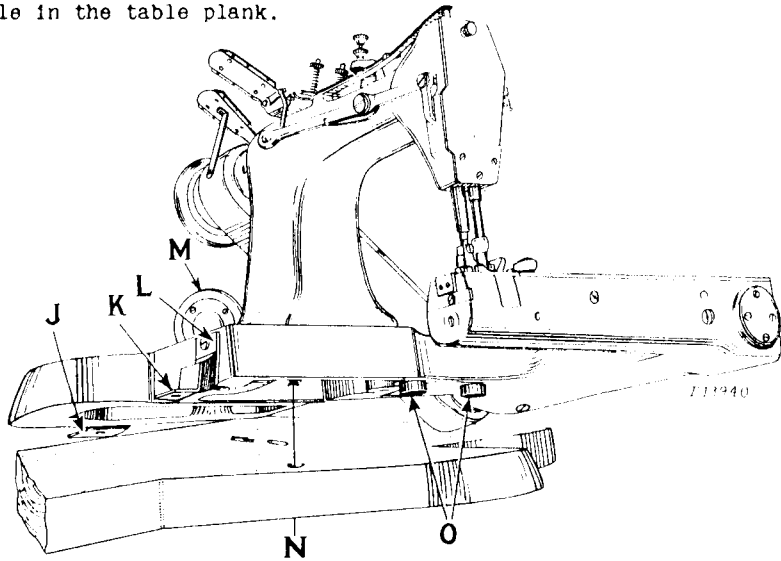
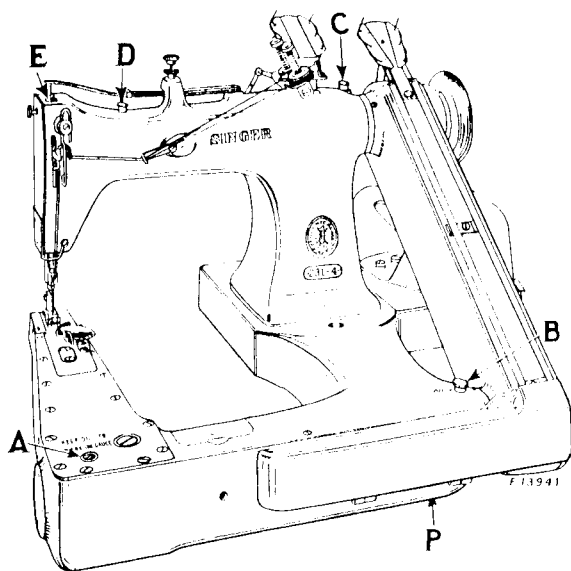
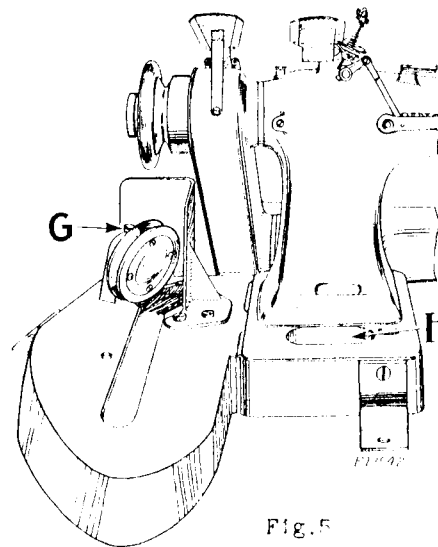
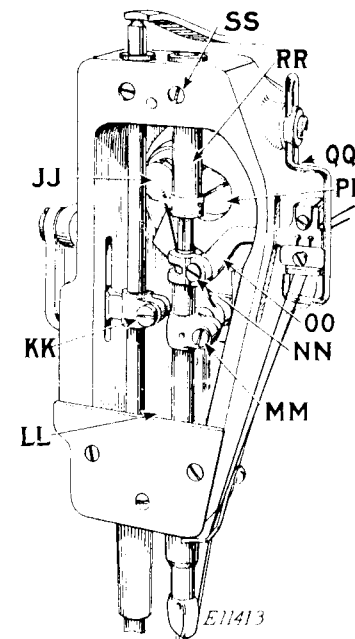

Fig. 2
Fig. 3
Fig. 5
Fig. 17
Unpack and clean the machine. Attach the counterweight to the machine bed as shown in Fig. 5. Insert the two rubber cushions (O, Fig. 2) into the holes in the base of the machine. Place the machine in position with the edge of the machine base in line with the edge of the table as shown below, and see that the hole (N) for the presser bar lifter chain is in line with the hole in the table plank.
The two vibration dampeners (J and K, Fig. 2) are placed at the rear of the machine base and at the right of the counterweight as shown in Fig. 2. Attach the straight straps (L) to the machine base and counterweight, then locate and drill holes in the table and fasten the angle straps (K) of the dampeners to the table with 1/4 X 2 1/4 inch bolts.
When the machine is operated on a Singer Electric Transmitter Power Table or a Low Shaft Power Table, the idler pulley (M, Fig. 2) is attached to the machine counterweight as shown in Fig. 5.
1. After the machine has been set up so that its cylinder arm cover is level, lift out the gauge (A, Fig. 3) and fill the arm reservoir to the level of the mark on the gauge. Run the machine a few minutes, then wipe off the gauge and recheck the oil level. THIS RESERVOIR SHOULD BE FILLED ABOUT TWICE A WEEK OR OFTEN ENOUGH TO KEEP THE OIL LEVEL UP TO THE MARK ON THE GAUGE.
3. Place about 5 drops of oil in each of the three cups (B, C and D, Fig. 3) which lubricate the ball bearings, and in the cup (G, Fig. 5) on the idler pulley underneath the balance wheel. DO THIS ABOUT ONCE A WEEK.
NOTICE: When the machine is first set up, or after it has stood idle for some time, put a few drops of oil in the top of the needle bar guide pin (E, Fig. 3) before starting the machine.
OIL DRAIN. Surplus oil from the bearings drains into the wells at the rear of the base (H, Fig. 5) and in the head of the arm (LL, Fig. 17). These wells may be kept empty by soaking out the oil with waste or similar material.
Oil which accumulates in the front of the arm under the rotary shaft should be drained out occasionally by removing the screw plug at (P, Fig. 3) in the bottom of the arm, to prevent oil from getting on the looper thread take-up.
Note: If an excessive amount of oil should flow into the reservoir (LL, Fig. 17), see instructions for replacing the wicking in the arm shaft crank on page 23.
The needle bar may be raised or lowered after loosening the clamping screw (MM, Fig. 17).
The needle thread take-up (OO, Fig. 17) is usually set so that the top of its clamp is about 1/16 inch below the top of the needle bar.
The auxiliary thread take-up (QQ, Fig. 17) at the front of the machine should be set high enough so that it takes up the slack of the needle threads after the loopers have shed the needle loops and as the needle bar finishes its downward stroke and the stitch is set.
(See Fig. 17)
Remove face plate, presser foot and needles. Remove the balance wheel, belt guard cover and belt, as instructed on page 22. Remove the upper belt pulley. Loosen the presser bar lifter bracket clamp screw (KK, Fig. 17) and withdraw the presser bar from the top. Loosen clamp screws (MM and NN), remove the thread take-up and allow the needle bar to drop downward. Loosen set screw (SS) and tap the needle bar guide pin (RR) out through the top. Then tap the shaft out through the needle bar end, with the crank, oil retainer ring and ball bearing.
TO REMOVE ONLY THE ARM SHAFT CRANK, lower the needle bar and remove the presser bar as instructed above, take out the large cap screw (PP, Fig. 17) in the crank, and loosen the two large set screws in its perimeter which are accessible through the hole in the rear of the casting. The smaller screw which is also visible through the hole in the casting should not be molested. The crank may then be removed from the shaft.